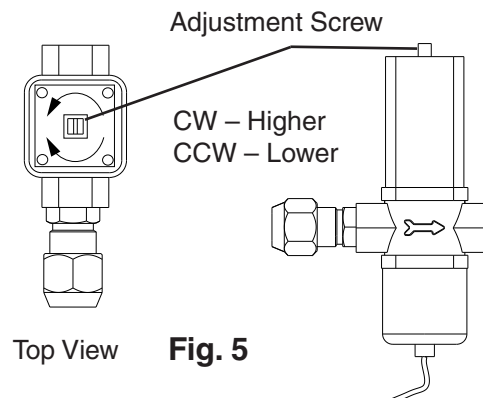

Fig. 5
- 2) 5 min. after a freeze cycle starts, confirm that the thermometer reads 104°F to 115°F (40°C to 46°C). If it does not, rotate the adjustment screw by using a flat blade screwdriver until the temperature is in the proper range. See Fig. 5. Next, check that the reference pressure is in the range indicated in the Head Pressure table in the Performance Data section. If it is not in the proper range, verify the refrigerant charge.